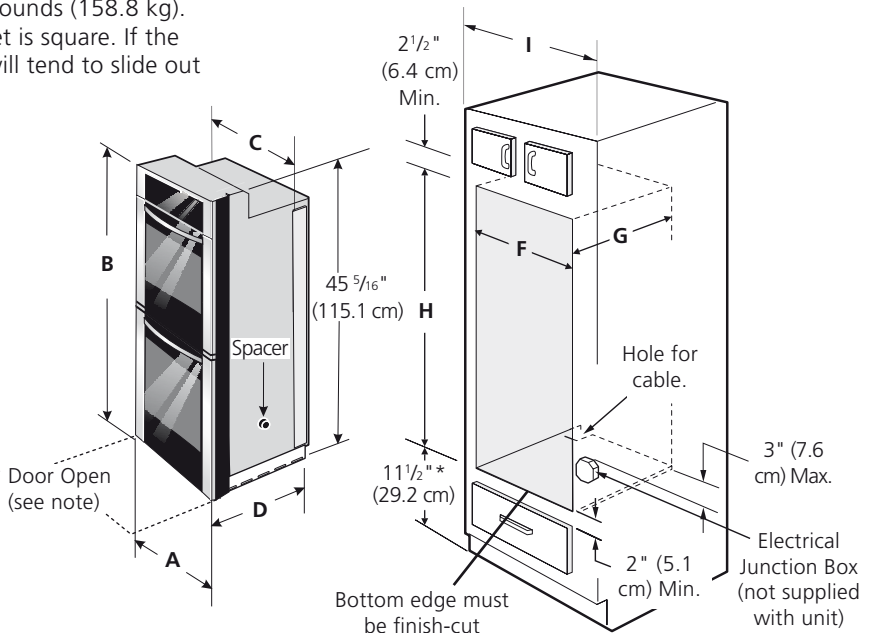

Figure 1
Refer to figure 1 for the dimensions applicable to your appliance, and the space necessary to receive the combination oven. The oven support surface may be solid plywood or similar material, however the surface must be leveled from side to side and from front to rear.
2. These appliances should be connected to the fused disconnect (or circuit breaker) box through flexible armored or nonmetallic sheathed cable. The flexible armored cable extending from the appliance should be connected directly to the junction box. The junction box should be located as shown in Figure 1 and with as much slack as possible remaining in the cable between the box and the appliance, so it can be moved if servicing is ever necessary.